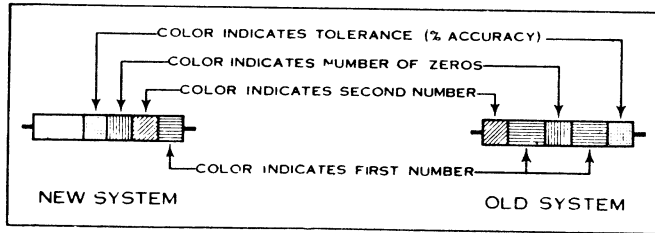

FIGURE 12. RMA RESISTOR COLOR CODE CHART
**EXAMPLE:** A 50,000 ohm resistor of standard tolerance is indicated by a green ring (5), a black ring (0) and an orange ring (00) as shown in the new system of marking in Figure 12. In the old system of marking, at the right of Figure 12, the resistor would be painted green (5) with a black end (0) and an orange dot or ring in the center (00).